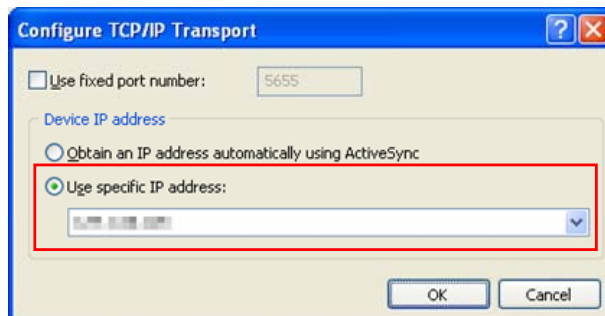

Figure 5.7
6. Click **Transport:** to access **Configure...** and set up **Device IP address** as shown in Figure 5.7.